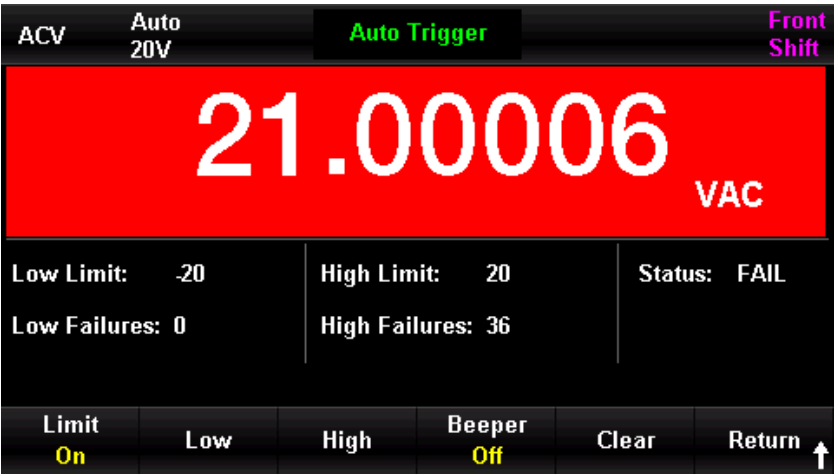

Figure 4-9 ACV Limits Measurement Menu
5. If the measured value exceeds the specified range, the measured value is not within the set limit value, so the beeper sounds, the main display is red, the limit test status is "Failed", and the number of upper limit failures is displayed, as shown in Figure 4-9.